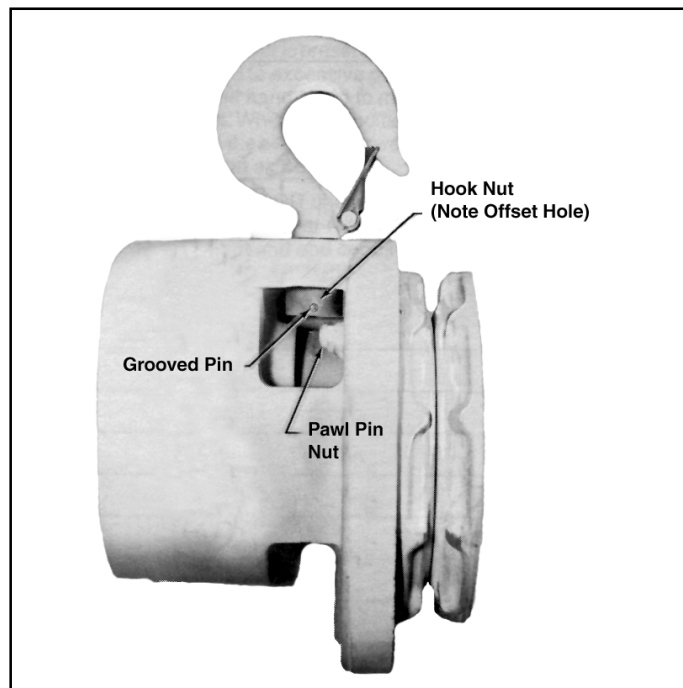

Figure 7-4. Installing Upper Hook and Nut
d. Do not remove pawl pin unless damaged, requiring replacement. A self-locking hex nut secures the pawl pin to the frame. This is accessible in the opening in the frame near the upper hook nut (or lug mounting nut). See Figure 7-4.
c. On two load chain 2, 3 and 4 ton models (round nut with pin), be certain original nut is used. The nut side with the greater distance to the center of the hole on the 2 ton model should face the top of hoist. See Figure 7-4.
When installing upper hook, be certain original nut is used. The nut side with the greater distance to the center of the hole should face the hook. See Figure 7-4.